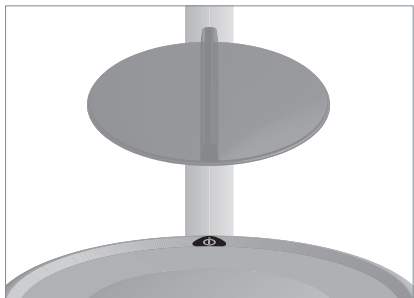

Fig. 4: Storing the magnifier cover.
- Clamp the magnifier cover to the light support, see Fig. 4.